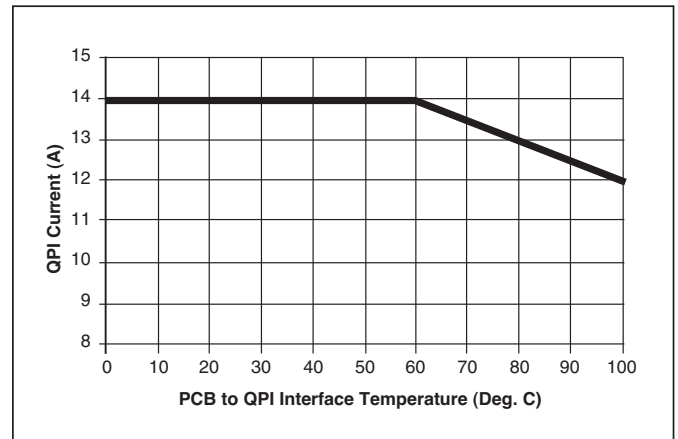

Figure 5 – QPI-6 current derating curve.
- -40° to +100°C PCB temperature (See Fig. 5)
**Note 3** - Refer to Figure 5 for current derating curve.
The current derating curve shown in Figure 5 should be used when the PCB temperature in close proximity of the QPI-6 exceeds 60°C. For example, the QPI-6 will support up to 13 A of current or 528 W from a 48 Vdc bus at an 80°C interface temperature. Temperature should be measured at the PCB interface to the QPI-6 on the Bus +/- pads or the QPI+/- pads. Refer to Figures 9, 10 & 12 for PCB layout recommendation.